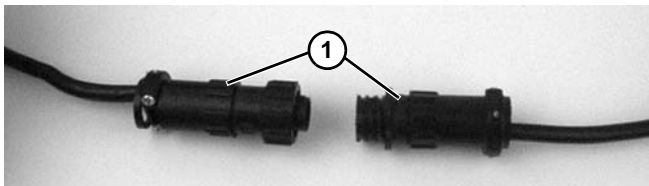

**Figure 40**
- Loosen terminal box screws (**Figure 40, item 1**) and remove cover (**Figure 40, item 2**).